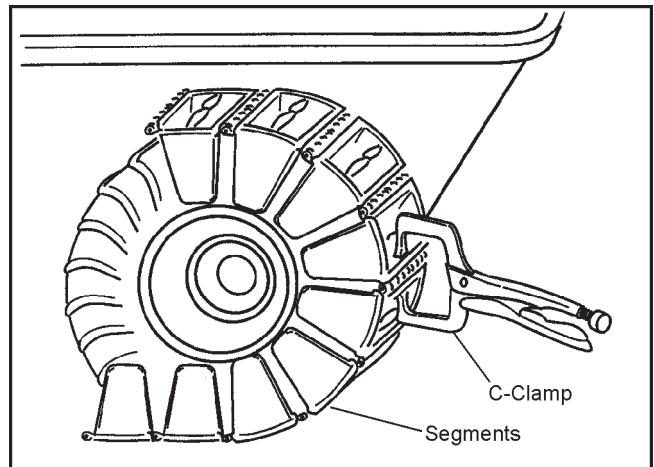

Figure 11-4 Track Assembly
7. Join the two ends of the track and secure them in place with C-clamps as shown in Fig. 11-4, so that the 1/4" holes are lined up.
1. Use C-clamp to take tension off of track pin, as in Fig. 11-4.